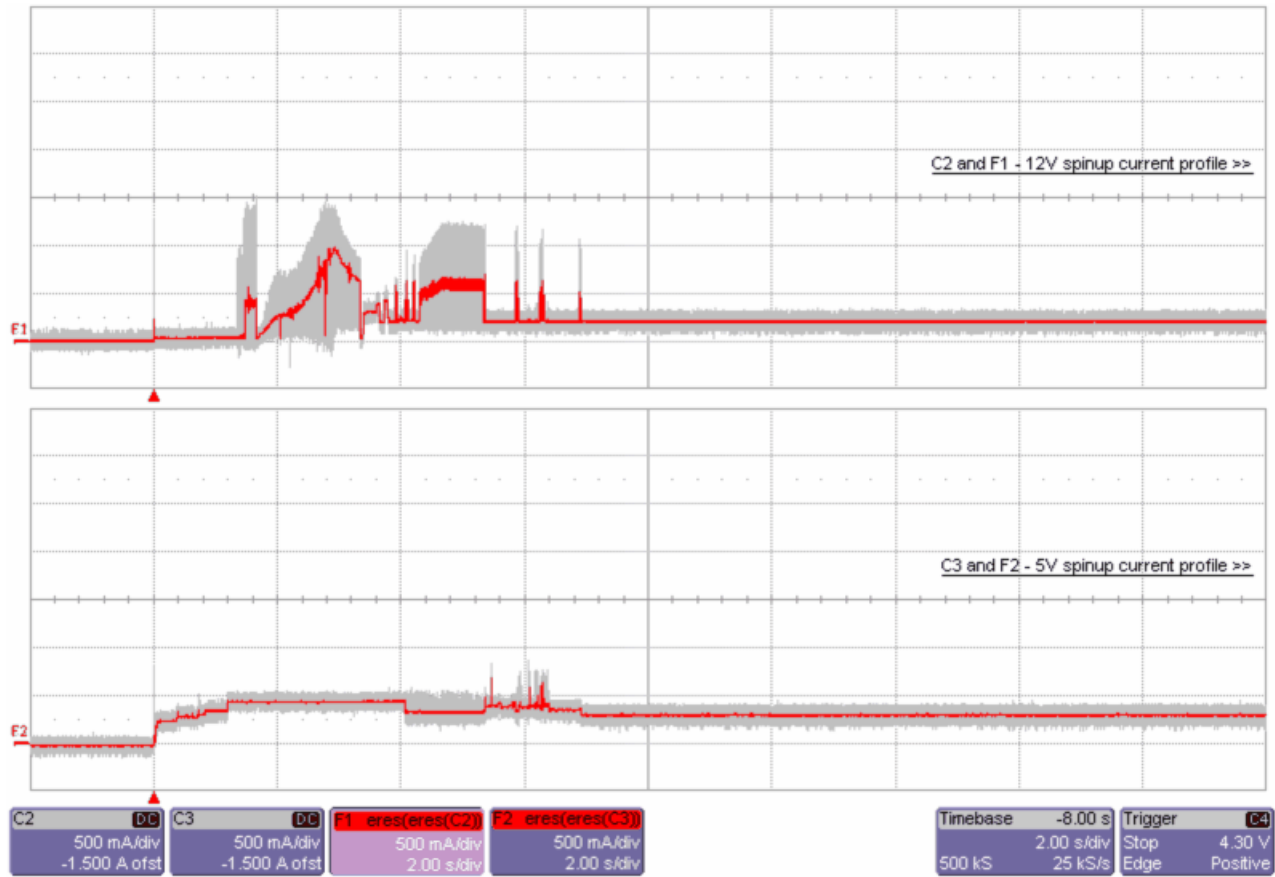

Figure 1. Current profile for 146GB models.
- [3] See +12V current profile in Figure 1.